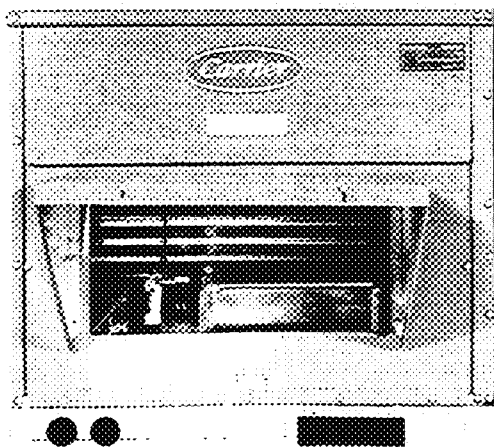

Fig. 27 — Outdoor-Air Hood Installed on Unit
8. Fasten hood top and side plate assembly (Fig. 27) to outdoor-air opening panel with screws provided.